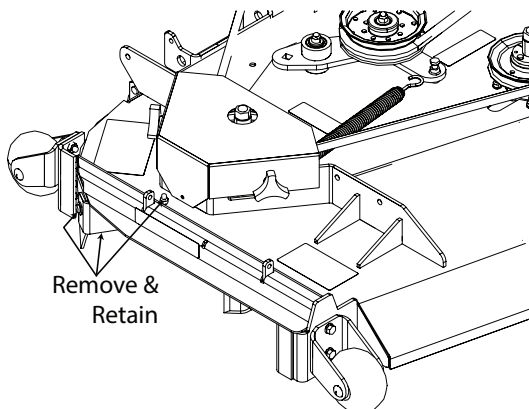

Figure 3-43. Removing the Turbo Baffle
5. Remove the turbo baffle from the cutter deck. See Figure 3-43.